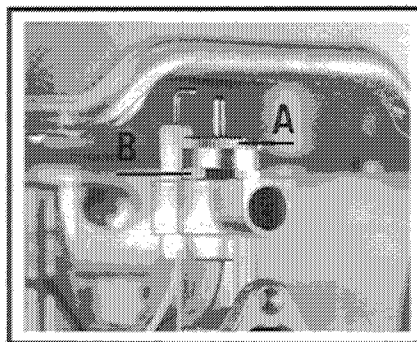

Fig. 7
- Unscrew the pilot tube clamping screw A (fig. 7) and remove the clamp and tube.
- Unscrew the knurled pilot burner outer ring A (fig. 7).